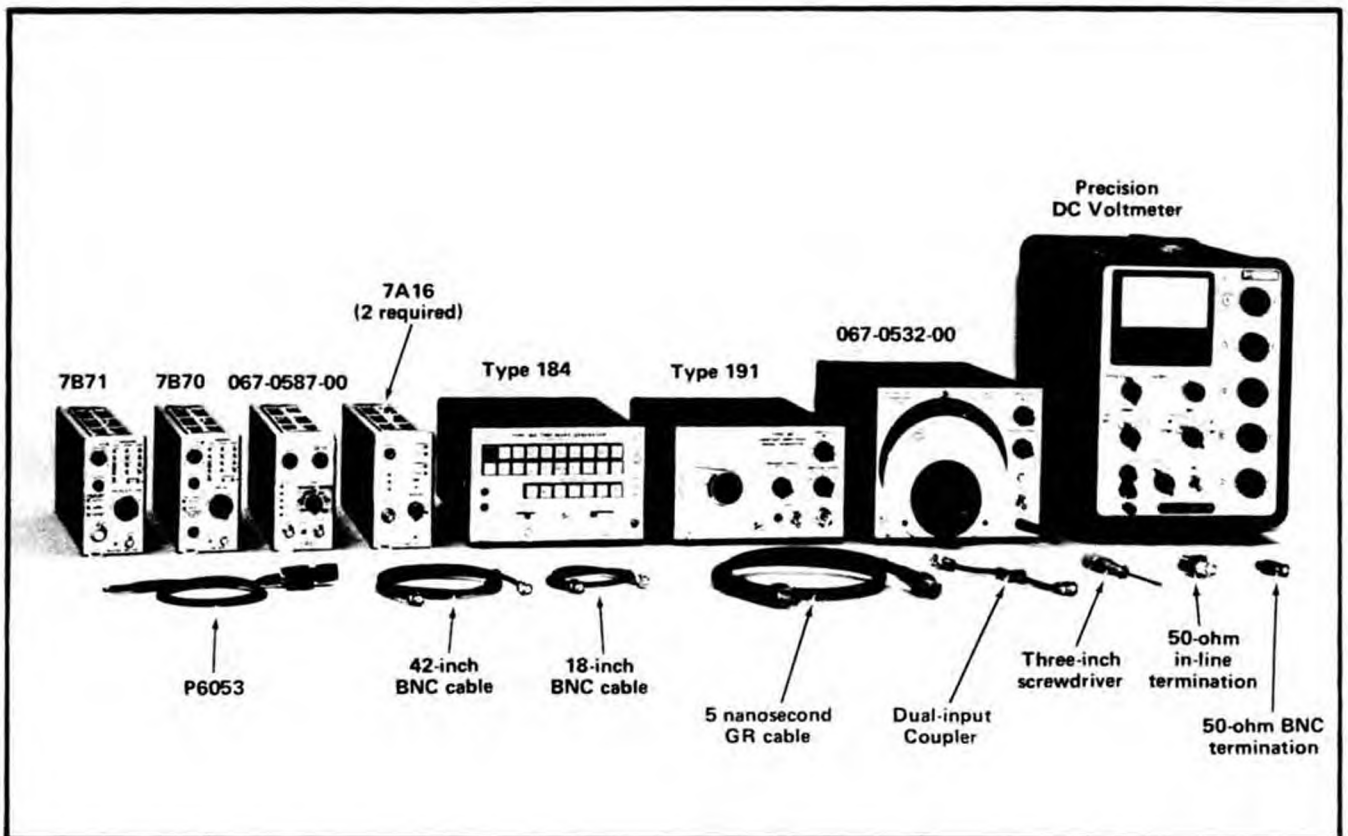

Fig. 5-19. Test equipment required for steps 18 through 30.
a. Test equipment required for steps 18 through 30 is shown in Fig. 5-19.